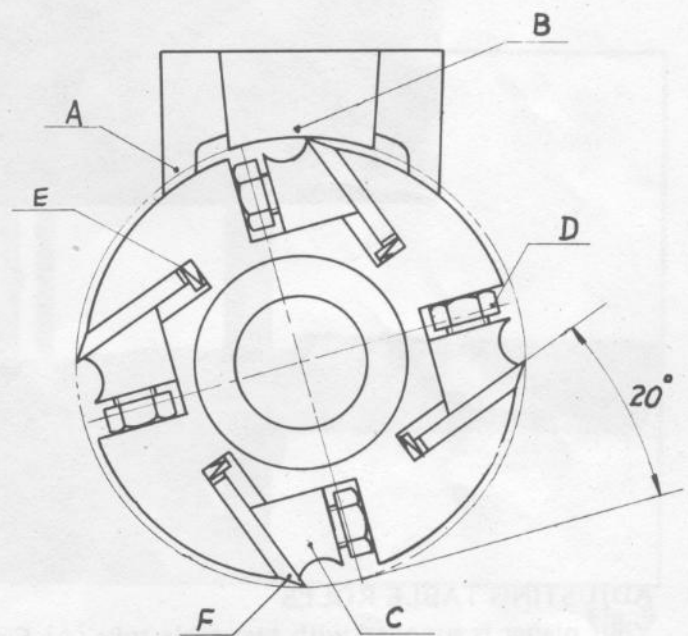
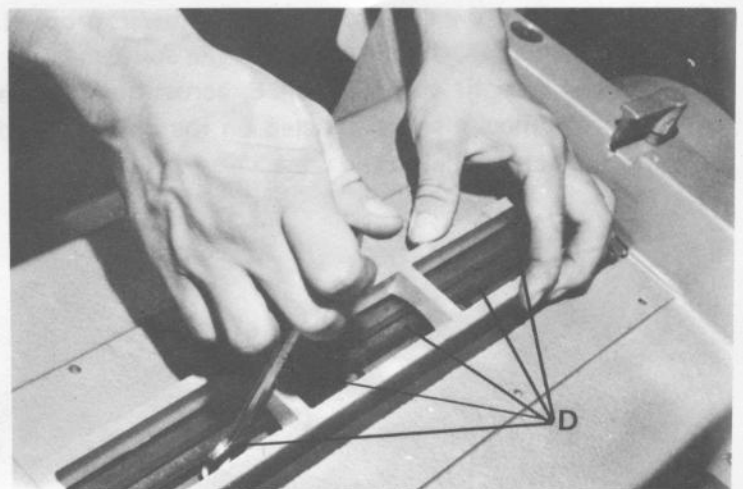

Fig. 5
Fig. 6
A. To CHECK AND ADJUST KNIVES use knife gage (A) Fig. 6 and 5 and check all four knives for proper setting as shown. When the gage (A) is placed properly on the cutterhead as shown, the knife should just contact the bottom of the center protrusion (B) Fig. 5 and 6 of the gage.
B. If an adjustment to one or more of the knives is necessary, slightly loosen the knife locking bars (C) Fig. 5 of all four knives by turning the twenty knife locking screws (D) into the knife locking bars just enough to relieve stress in the cutterhead and not disturb the setting of the knives.
C. Then, using the knife gage, adjust the knife that must be reset by loosening all five locking screws (D) Fig. 5 by turning them into the knife locking bar. As the knife locking bar becomes loose, lifter springs (E) located under the knife will raise the knife until it comes into contact with the center portion (B) of the gage (A) Fig. 5. Then snug up the knife locking bar by lightly backing out the five screws (D) against the slot. **IMPORTANT: AT THIS TIME, ONLY TIGHTEN THE KNIFE INTO THE SLOT JUST ENOUGH TO HOLD KNIFE INTO POSITION.**
E. After all four knives are set with screws just snug, back out and tighten the five screws (D) Fig. 5 and 6, against the slot starting with the end screws first then the center screws until the knife is securely held in the cutterhead. Tighten remaining three knives in the same manner.
A. To remove knives, loosen the knife locking bar (C) Fig. 5 by turning the five knife locking screws (D) into the knife locking bar (C) and remove the knife locking bar (C), knife (F) and springs (E) located under the knives.
D. Inspect the cutting edge of the knives for nicks or wire edge. Hone the knives slightly using a stone or if the knives are to be sharpened, maintain a cutting angle of 20 degrees as shown in Fig. 5.
E. Insert springs (E), knives (F) and knife locking bars (C), into all four slots in the cutterhead, as shown in Fig. 5. Back out locking screws (D) just enough to hold all four knives in the cutterhead.
F. Place the knife gage (A) over one of the knives, as shown in Fig. 5.
G. While holding down on the knife gage (A) Fig. 5 loosen all five locking screws (D) by turning them into bar (C) until cutting edge of knife (F) comes into contact with the protrusion (B) of gage (A). Then snug up the knife locking
J. After all four knives are set with the screws just snug, back out and tighten the five screws (D) Fig. 5, against the slot starting with the end screws first and then the center screws until the knife is securely held in the cutterhead. Tighten the remaining three knives in the same manner.